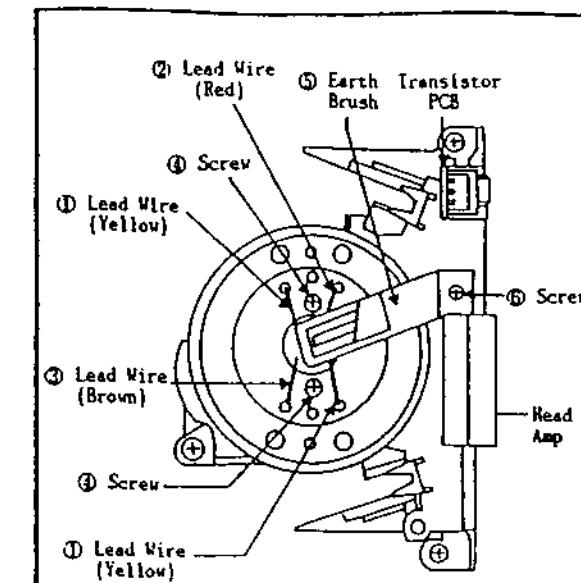

Fig. 20
1. Set up a new drum as per Fig. 20 and correctly place each lead wire.
2. Set upper drum by installing two screws ④.
3. Solder lead wires ①, ② and ③ to their respective positions.
4. Install the EARTH BRUSH ⑤ with the screw ⑥.